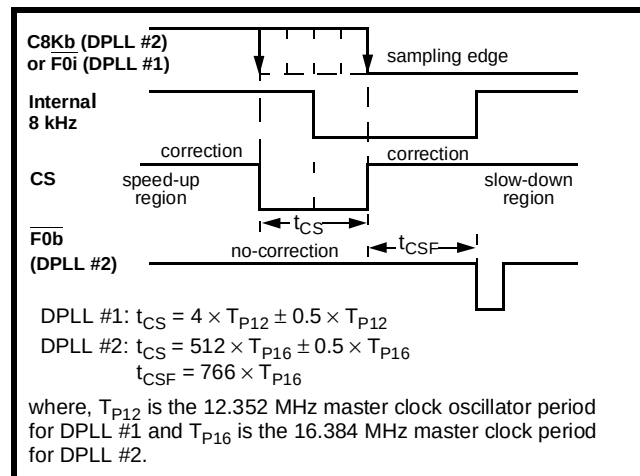

**Figure 4 - Phase Comparison**
As shown in Figure 4, the falling edge of the 8 kHz input signal (C8Kb for DPLL #2 or F0i for DPLL #1) is used to sample the internally generated 8 kHz clock and the correction signal (CS) once in every frame (125 μs). If the sampled CS is "1", then the DPLL makes a speed-up or slow-down correction depending upon the sampled value of the internal 8 kHz signal. A sampled "0" or "1" causes the frequency correction circuit to respectively stretch or shrink the master clock by half a period at one instant in the frame. If the sampled CS is "0", then the DPLL makes no correction on the master clock input. Note that since the internal 8 kHz signal and the CS signal are derived from the master clock, a correction will cause both clocks to stretch or shrink simultaneously by an amount equal to half the period of the master clock.
The no-correction window size is 324 ns for DPLL #1 and 32 μs for DPLL #2. It is possible for the relative phase of the reference signal to swing inside the no-correction window depending on its jitter and the relative drift of the master clock. As a result, the phase relationship between the input signal and the output clocks (and frame pulse in case of DPLL #2) may vary up to a maximum of window size. This situation is illustrated in Figure 4. The maximum phase variation for DPLL #1 is 324 ns and for DPLL #2 it is 32 μs. However, this phase difference can be absorbed by the input jitter buffer of Mitel's T1/CEPT devices.